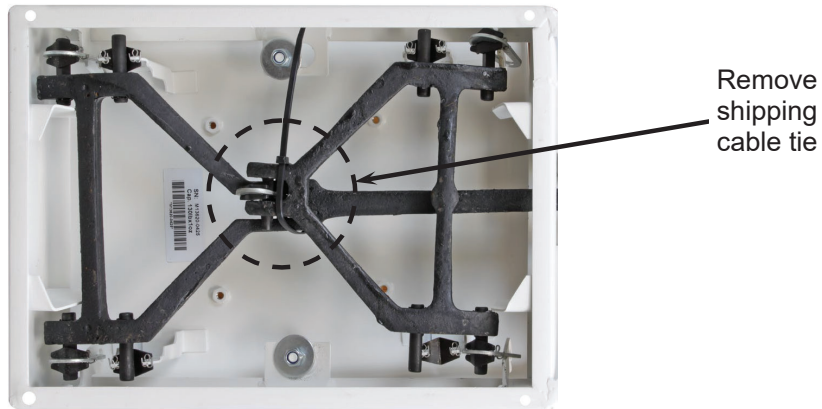

Figure 1. – Turn the scale over to access the bottom of the scale base
2. Turn the scale over and remove and discard the shipping cable tie on the underside of the scale base as shown in Figure 1.